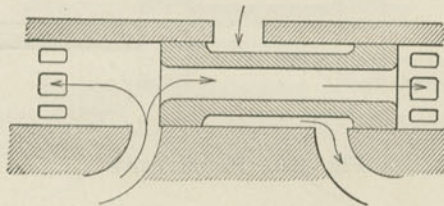

Fig. 161. Hollow Piston Valve.
*A. As in Fig. 161; the admission is between the valve ends, the exhaust at both chest ends.*